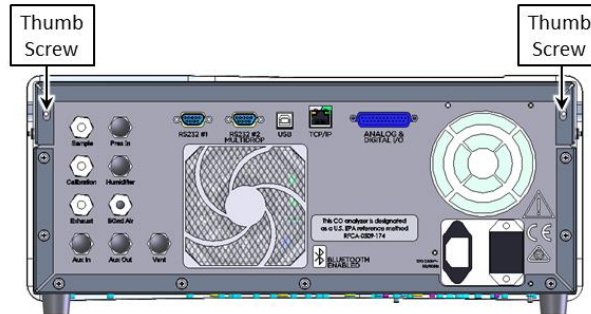

Figure 23 – Opening the Instrument – 1
1. Refer to Figure 23. Remove the thumb screws located on the rear panel.